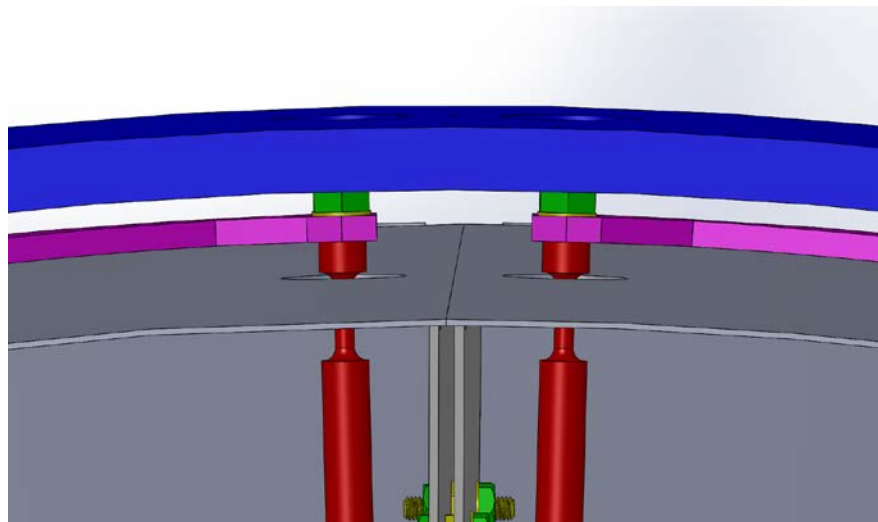

Figure 24: Suspension Rods and Spring Blade attachment
4. Insert the upper threaded shank of each Suspension Rod through the hole in the tip of the blade and fasten with an Ag-Plated 1/4-20 nut and washer, as shown in Figure 24. A hemostat, McMaster Carr P/N 5383A24 or 5383A26 can be used to reach in and hold the nuts above the Blade Spring while the Suspension Rod is threaded through the nut. Securely tighten the nut above the Blade Spring with the Long-Thin 7/16" Wrench by using a pair of pliers to hold the suspension rod below the spring.